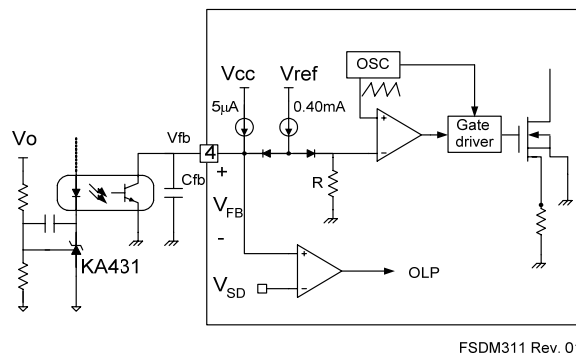

Figure 17. PWM and Feedback Circuit
2. Feedback Control: The FSDM311 is a voltage-mode controlled device, as shown in Figure 17. Usually, an opto-coupler with shunt regulator, like KA431, is used to implement the feedback network. The feedback voltage is compared with an internally generated sawtooth waveform, which directly controls the duty cycle. When the KA431 reference pin voltage exceeds the internal reference voltage of 2.5V, the opto-coupler LED current increases, the feedback voltage V_{fb} is pulled down, and it reduces the duty cycle. This happens when the input voltage increases or the output load decreases.